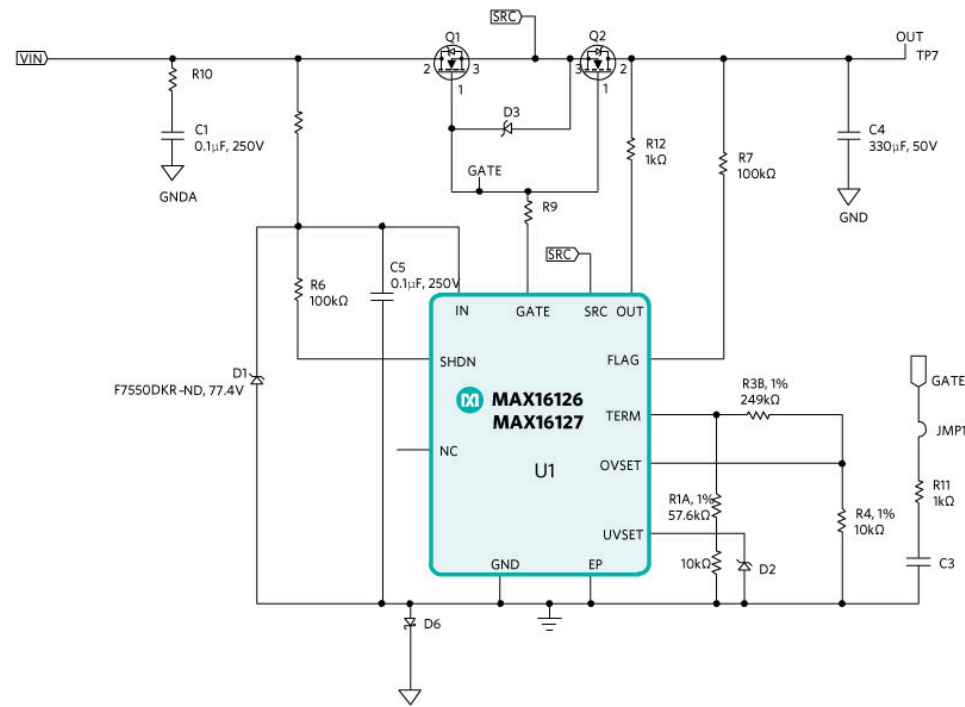

Figure 5. Increase the protection range of the MAX16126/MAX16127.
To increase the protection range of the MAX16126, designers can use a zener diode at the positive supply input-voltage pin (IN) with a current-limiting resistor (R_p) in series, as shown in Figure 5. During a load-dump event, if IN overshoots by more than +90V, the zener diode will clamp the MAX16126 at +90V and R_p will limit the current through the zener diode.